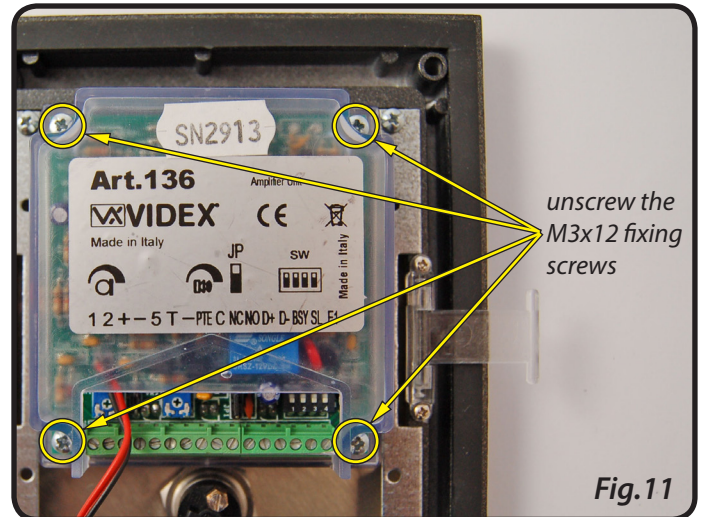

Fig.11
2. Unscrew and remove the four M3x12 fixing screws from the VR4KAM speaker module, as shown in Fig.11.